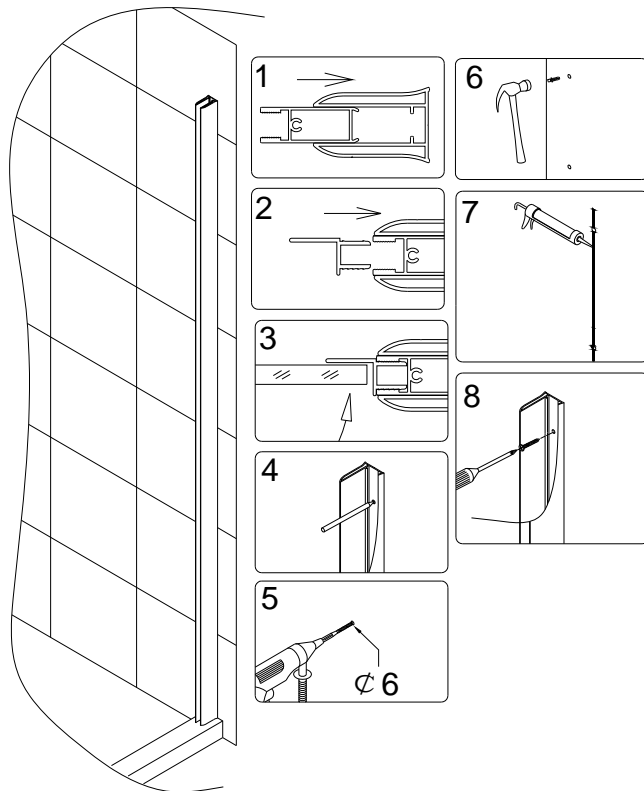
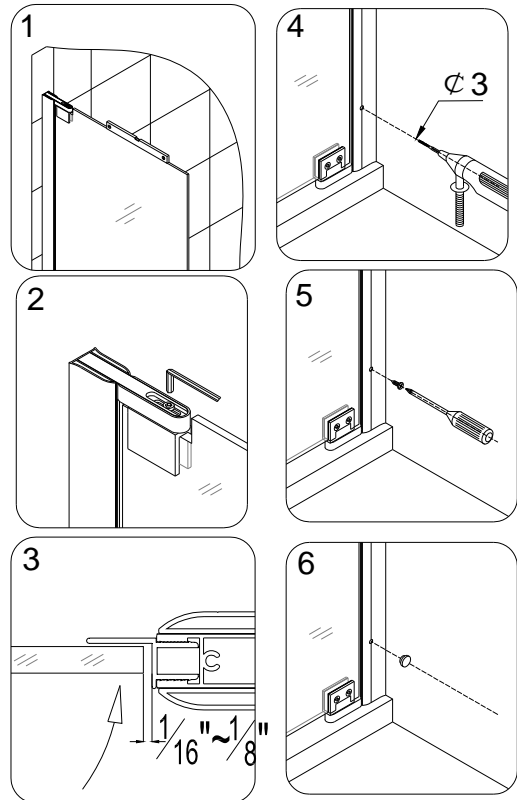

Fig 7
Fig 8
7. Push the **Glass profile (4)** into the **Wall profile (5)** and push the **Anti-water strip (10)** into the groove of the glass profile. Close the glass door against the **Anti-water strip (10)** (Fig 7/3) to find the position of the wall profile. (You can pull the **Glass profile** from the **Wall profile** to adjust width). Mark the position of the **Wall profile** on the wall. See Fig 7/1,2,3 for details.
8. Pull out the **Glass profile** with **Anti-water strip** inserted into it from the wall profile. Use predrilled holes in the aluminum profile to mark holes for drilling. Now drill holes in the wall and insert the **Wall anchor (12)** into the holes. Apply silicone sealant along the holes on the wall. Attach the **Wall profile (5)** to the wall using **Flat head screws ST4.2×30 (17)**. See Fig 7 for details.
9. Push the **Glass profile (4)** with the **Anti-water strip (10)** into the **Wall profile (5)**.
10. Adjust the width of your door by pulling out the **Glass profiles (2)** and **(4)** if it necessary for size of your door. Adjust the **Glass door** using a level and tighten in place with the **Socket head screw M6×12 (18)**. Close the glass door and make sure that there is 1/16" - 1/8" gap between the glass door and the anti-water strip. See Fig 8.
11. Drill holes in **Glass profile for glass door (2)** through the **Wall profile for glass door (1)**. Secure the **Wall profile for glass door (1)** and the **Glass profile for glass door (2)** with
Flat head screws ST4.2×16 (15). Cover screw locations with **Decorative covers (14)**. See Fig 8 for details.
17. Pull out the **Glass profile** with **the Stationary glass** inserted into it from the wall profile. Use predrilled holes in the aluminum profile to mark holes for drilling. Now drill holes in the wall and insert the **Wall anchor (12)** into the hole. Apply silicone sealant along the holes on the wall. Attach the **Wall profile (5)** to the wall using **Flat head screws ST4.2×30 (17)**. See Fig 7/4,5,6,7,8 for details.
18. Push the **Glass profile (4)** with the **Stationary glass** and **Anti-water strip (31)** into the **Wall profile (5)**.
19. Adjust the width of your door by pulling out the **Glass profiles (2)** and **(4)** if it necessary for size of your door. Adjust the **Glass door** using a level and tighten in place with the **Socket head screw M6×12 (18)**. See Fig 8/1,2.
20. Drill holes in **Glass profile for glass door (2)** through the **Wall profile for glass door (1)**. Secure the **Wall profile for glass door (1)** and the **Glass profile for glass door (2)** with **Flat head screws ST4.2×16 (15)**. Cover screw locations with **Decorative covers (14)**. See Fig 8/4,5,6 for details.
21. To adjust and secure the **Stationary glass** - Install the **Bracket (29)** onto the **Stationary glass**; mark the drill hole for the bracket. Make sure the mark is clear and visible and drill